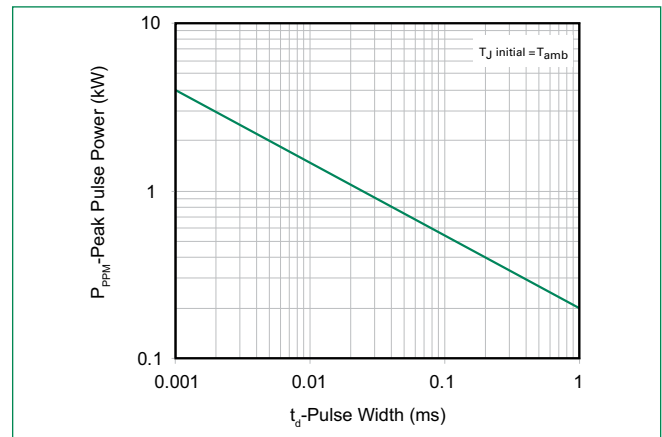

Figure 3 -
1. Non-repetitive current pulse, per Fig. 4 and derated above T_J (initial) = 25°C per Fig. 3.